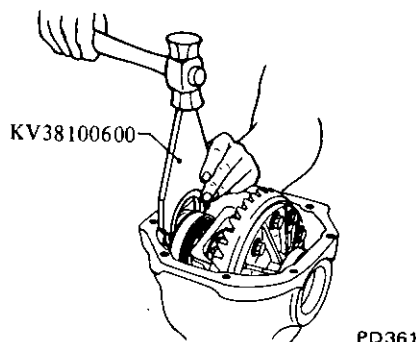

Fig. PD-31 Driving spacer into place
4. Drive in side bearing spacer between R.H. washer and housing with Side Bearing Spacer Drift KV38100600. See Figure PD-31. If too great or too small a driving force is required, check to be sure that calculation and side bearing width are correct.